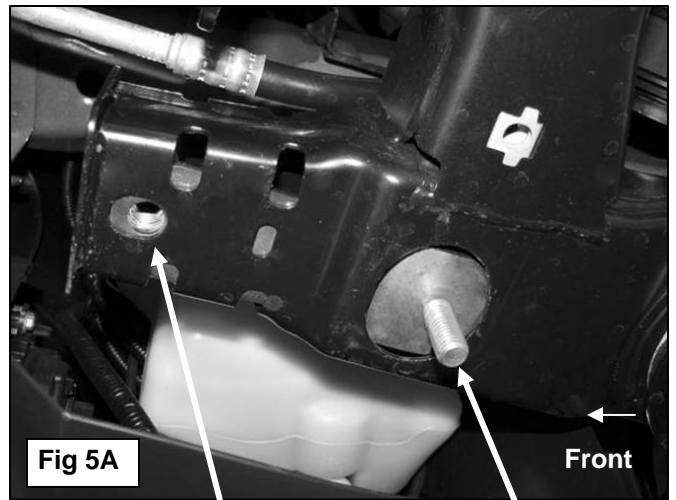

Fig 5A
- Vehicles without air inlet:** Repeat **Steps 2 & 3** for passenger side Frame Mounting Bracket installation, **(Figures 5A, 5B & 5C)**.